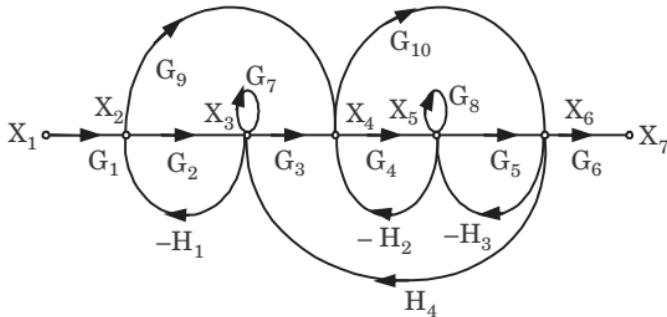

Fig. 3.
- Q. 7.** Find the transfer function of the signal flow graph shown in Fig. 3, using Mason's gain formula.